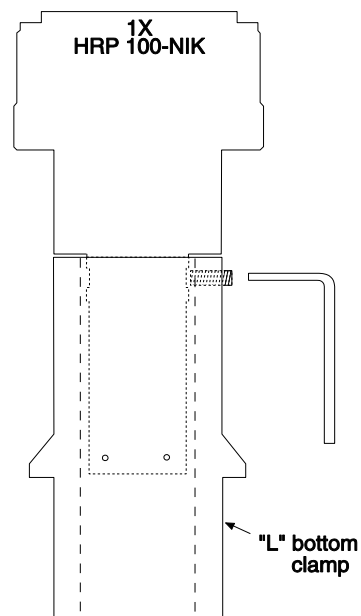

Figure 19. Bottom Clamp Secured to Relay Lens
4. Next place the long tube of the relay lens into the bottom clamp for your microscope, securing it to the relay lens with the three set screws at the top of the clamp as shown in Figure 19.